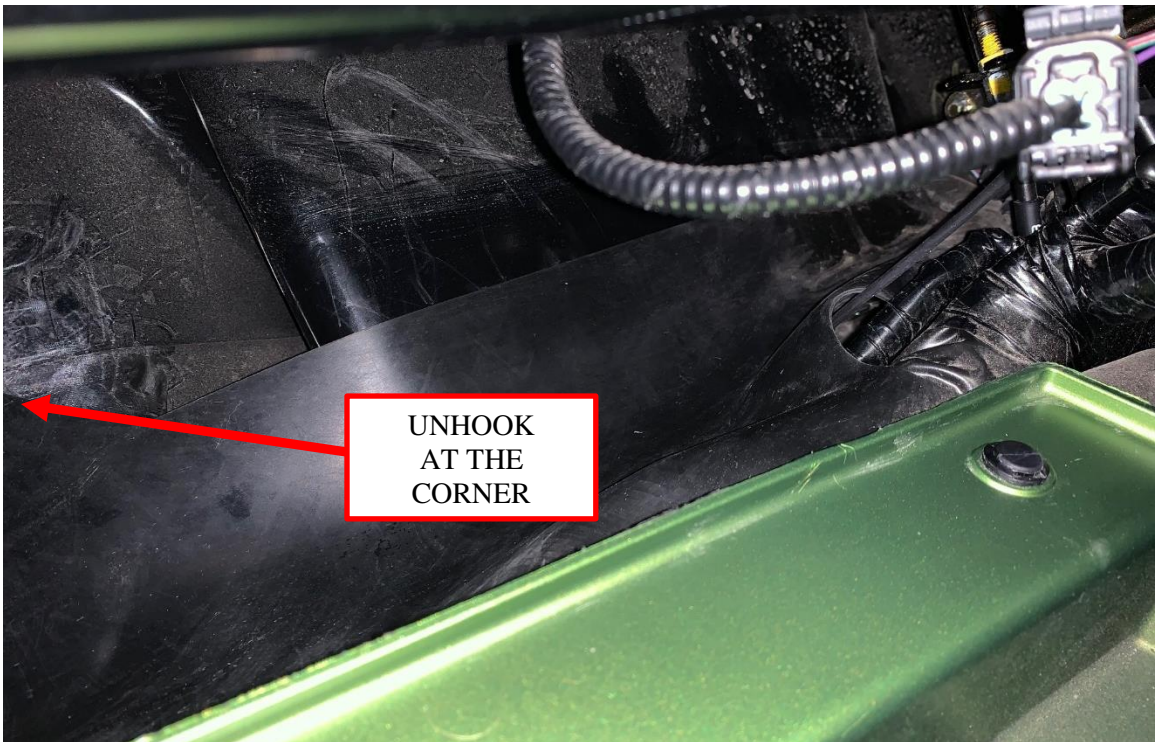

**Figure 14: Battery cable connections.**
12. Connect the chassis harness battery cables to the battery. Remove the battery bolts from each terminal as you connect the cables, and replace the bolts with the provided M6 x 1.0 x 14 mm battery bolts to clamp the cables on top of the existing cables. Connect the red harness wire to the terminal with the existing red battery cable (+ 12V). Connect the black harness wire to the terminal with the existing black battery cable (- 12V). See Figure 14.